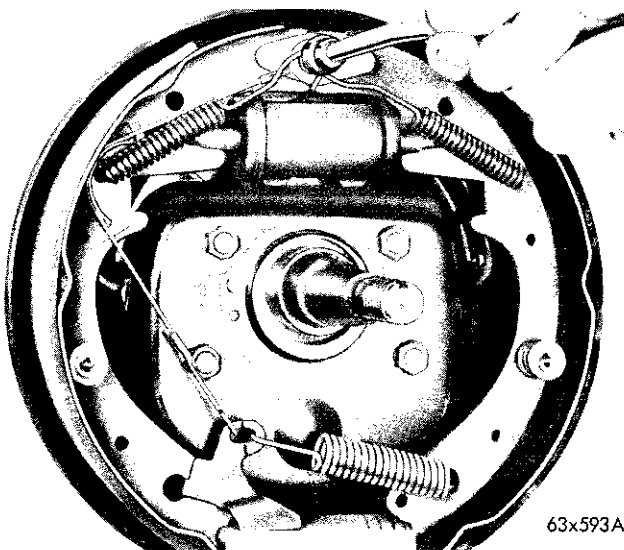

Fig. 4—Removing or Installing the Brake Shoe Return Springs (Front)
(1) Using Tool C-3785 remove the brake shoe return springs (Fig. 4).